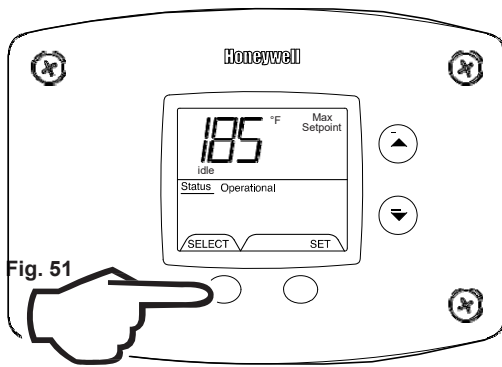

Fig. 51
1. In service mode press the 'Select' button until 'Max Setpoint' is displayed (Fig. 51).